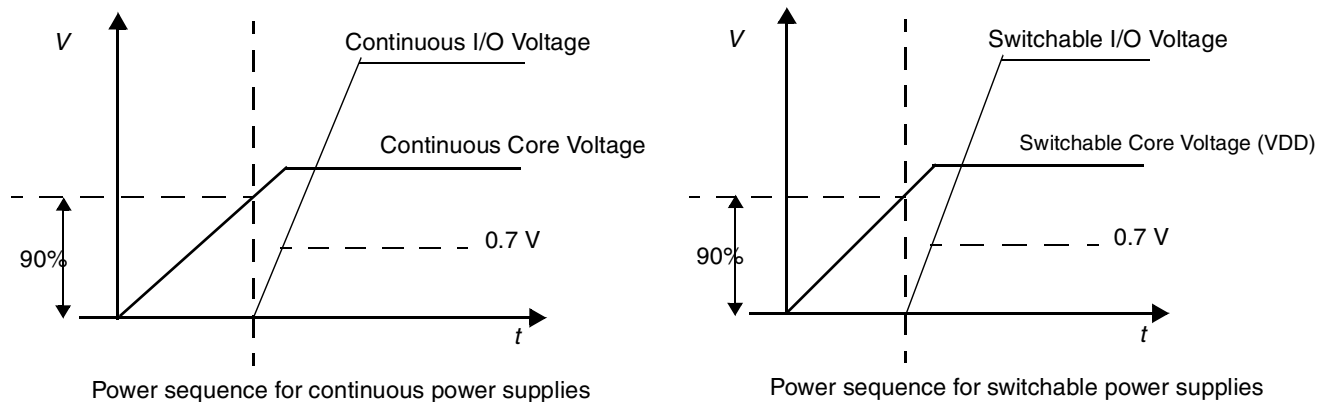

Figure 3. Power-Up Sequencing
- NV_{IN} on the PCI interface may overshoot/undershoot according to the PCI Electrical Specification for 3.3-V operation, as shown in Figure 3.
before the core voltage, there may be a period of time when all input and output pins be actively driven and cause contention and/or excessive current. In order to avoid actively driving the I/O pins and to eliminate excessive current draw, apply the continuous core voltage (VDDC) before the continuous I/O voltages (LVDDx_ON and NVDDx_ON) and switchable core voltage (VDD) before the switchable I/O voltages (GVDD, LVDDx_OFF, and NVDDx_OFF). PORESET should be asserted before the continuous power supplies fully ramp up. In the case where the core voltage is applied first, the core voltage supply must rise to 90% of its nominal value before the I/O supplies reach 0.7 V, see Figure 3. Once all the power supplies are stable, wait for a minimum of 32 clock cycles before negating PORESET.
Figure 3 shows the power-up sequencing for switchable and continuous supplies.